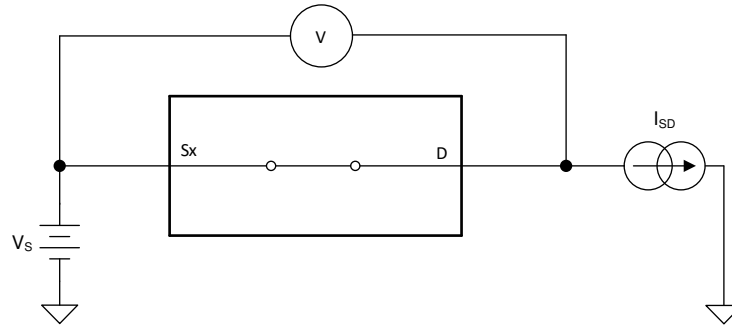

Figure 7-1. On-Resistance Measurement Setup
The on-resistance of a device is the ohmic resistance between the source (Sx) and drain (D) pins of the device. The on-resistance varies with input voltage and supply voltage. The symbol R_{ON} is used to denote on-resistance. The measurement setup used to measure R_{ON} is shown in the following figure. Voltage (V) and current (I_{SD}) are measured using this setup, and R_{ON} is computed as shown in Figure 7-1 with $R_{ON} = V / I_{SD}$: